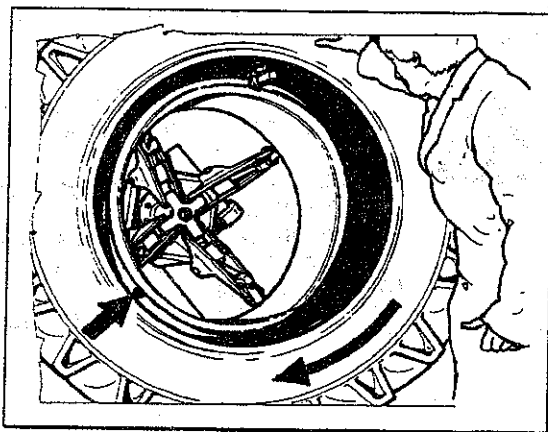

Fig.51
3. Place the hook tool as shown in Fig.51. The edge of the hook should be about 2-3 cm (1") away radially from the rim edge and 2-3 cm (1") to the outside.